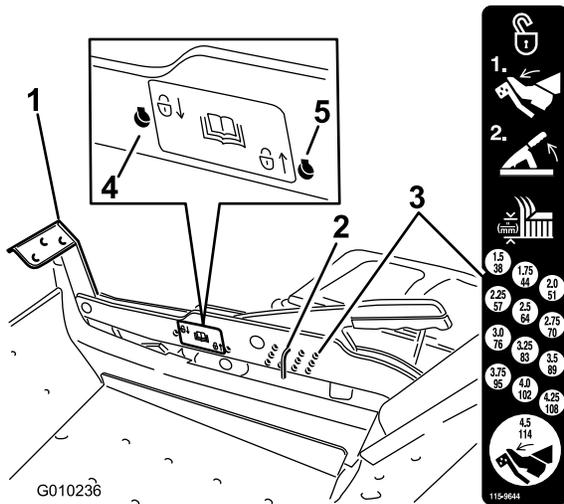

Figure 28
1. Push on the deck lift pedal with your foot and raise the mower deck to the transport position (also the 114 mm (4-1/2 inch) cutting height position) (Figure 28).
2. To adjust, remove the pin from the height-of-cut bracket (Figure 28).
3. Select a hole in the height-of-cut system corresponding to the height-of-cut desired and insert the pin (Figure 28).
1. Push on the deck lift pedal with your foot, and raise the mower deck to the transport position (114 mm (4.5 inch) cutting height position) (Figure 28).
2. Remove the pin from the height-of-cut bracket (Figure 28).
3. Select the lower hole on the lock decal and insert the pin (Figure 28).
4. Select the upper hole on the lock decal and insert the pin (Figure 28).